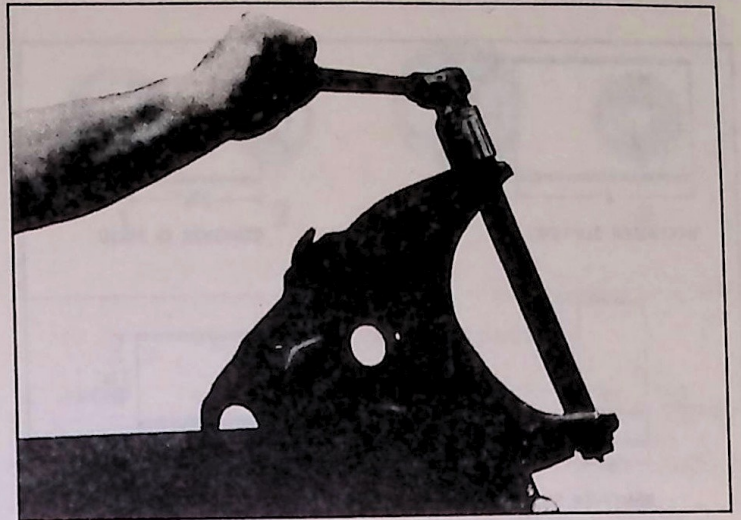

Fig. 13—Removing Control Arm Bushing (Typical)
1. Remove grease fittings from bushing outer ends and unscrew bushings from control arm and shaft (fig. 13).